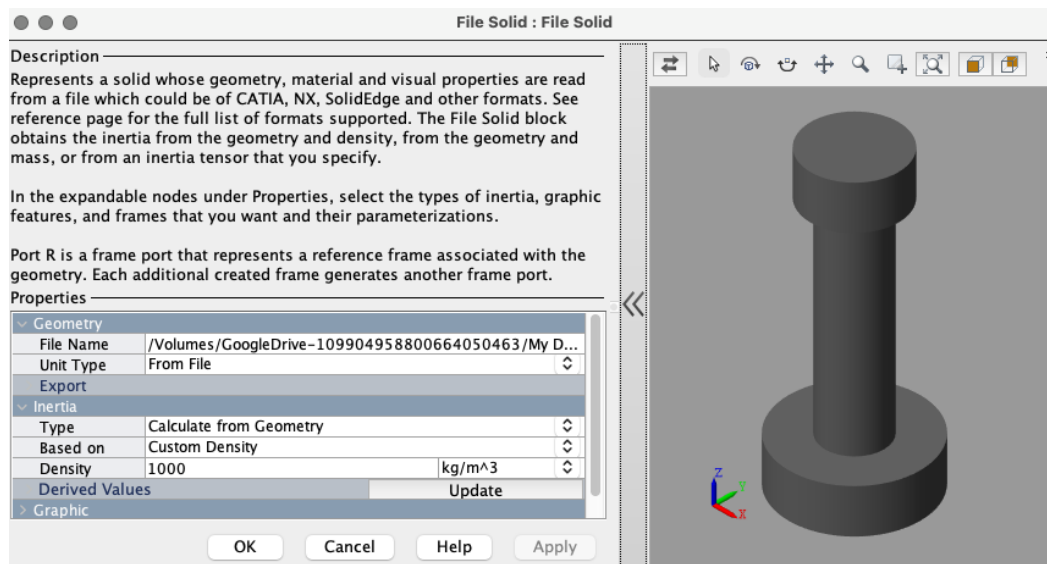

Figure 8: File Solid Window
12. Update the File Solid visualization, by pressing F5 (“fn+F5” for mac) hot key. The results will appear as they do in figure 8. Exit the “File Solid” window by clicking “OK”